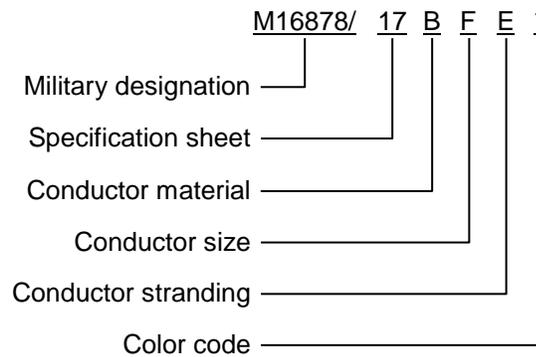

FIGURE 2. Example of PIN (see MIL-DTL-16878G).
- 1/ PIN stands for part or identifying number (see figure 2).